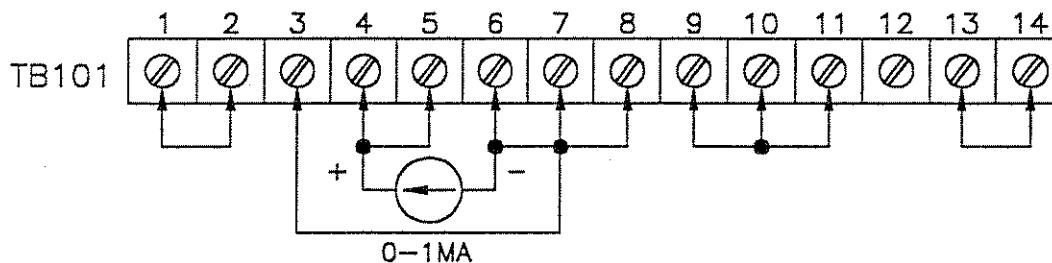

Figure 8: Remote Programming by External Current, Voltage Mode.
3.3.6 Remote Programming By External Current (Figures 8 & 9)